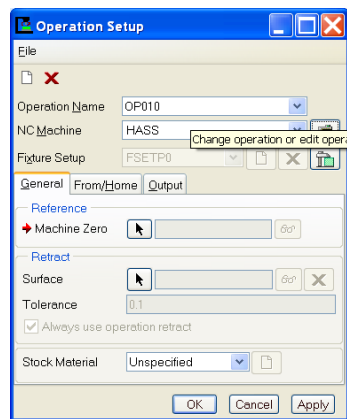
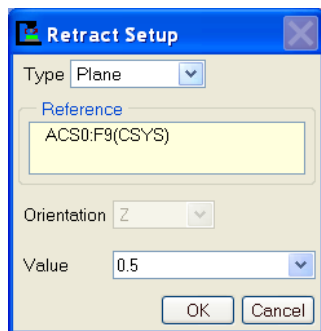
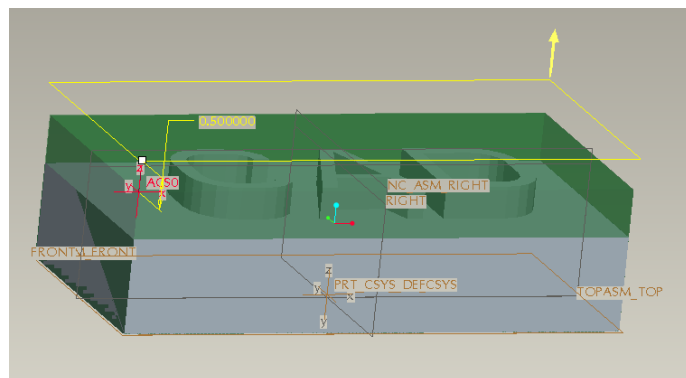

Figure 1.25
Figure 1.28
Figure 1.29 Defining the Retract Surface
4. MFG Setup → Operation. Operation Setup window pops up automatically as shown in Figure 1.25.
5. Define NC machine. Click NC machine icon  in Figure 1.25, Machine Tool Setup windows pop up as shown in Figure 1.26. Enter the parameters as shown below
6. Define Machine Zero. Click Reference Machine Zero icon  in Figure 1.25. Select the coordinate system ACS0 just created.
7. Define retract plane. Click Retract Surface icon  in Figure 1.25. Retract Setup window pops up (Figure 1.28). Enter 0.5, click OK to close the window. The retract plane is shown in Figure 1.29.